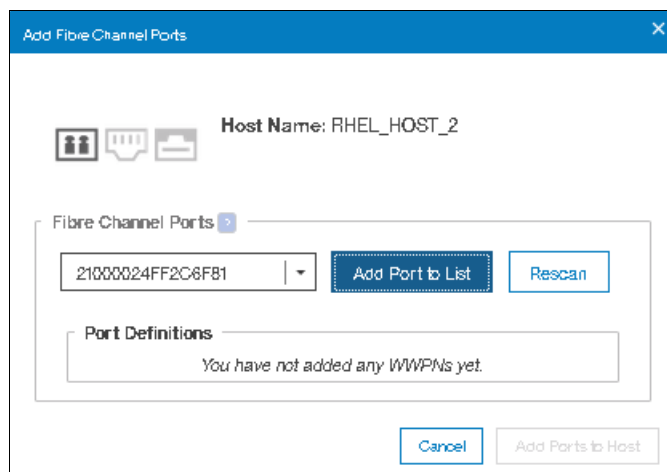

Figure 8-33 Add Port to List
4. Select the desired WWPN and click **Add Port to List** as shown in Figure 8-33.